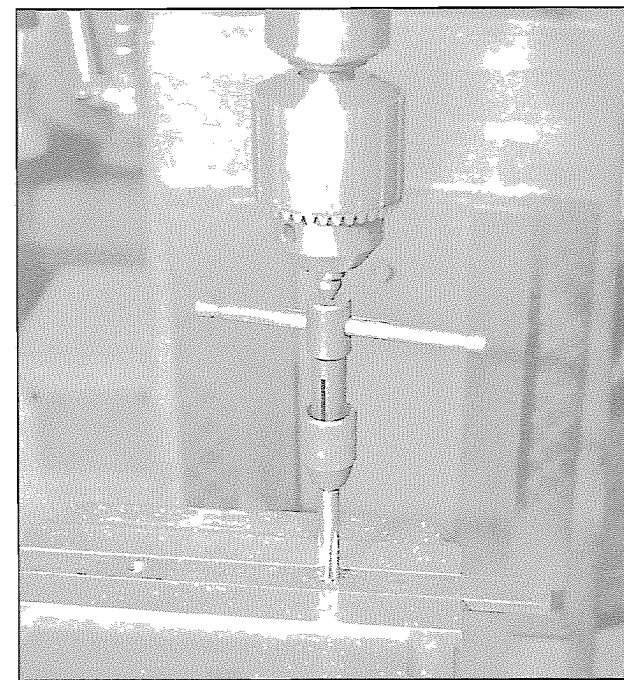

**Figure 4-25.** A slot is cut along the length of the pipe with a side milling cutter or a stack of slitting saws.
2. On a milling machine, lay the pipe on a pair of V-blocks, parallel with the long axis of the milling table. Insert a piece of round, steel barstock through the pipe, and clamp it in place with a pair of hold-downs (**Figure 4-24**). On a suitable arbor in the vertical milling head, mount a side milling cutter or a stack of slitting saws, and cut a slot completely through the wall of the pipe along its entire length (**Figure 4-25**). **Important note.** Steel pipe is made with a welded seam down the inside. When you cut the slot, orient the pipe so that the seam is cut away in the process. Deburr the edges of the slot, inside and out, and proceed to **step 3**. From this point on I'll call this finished piece "the body".